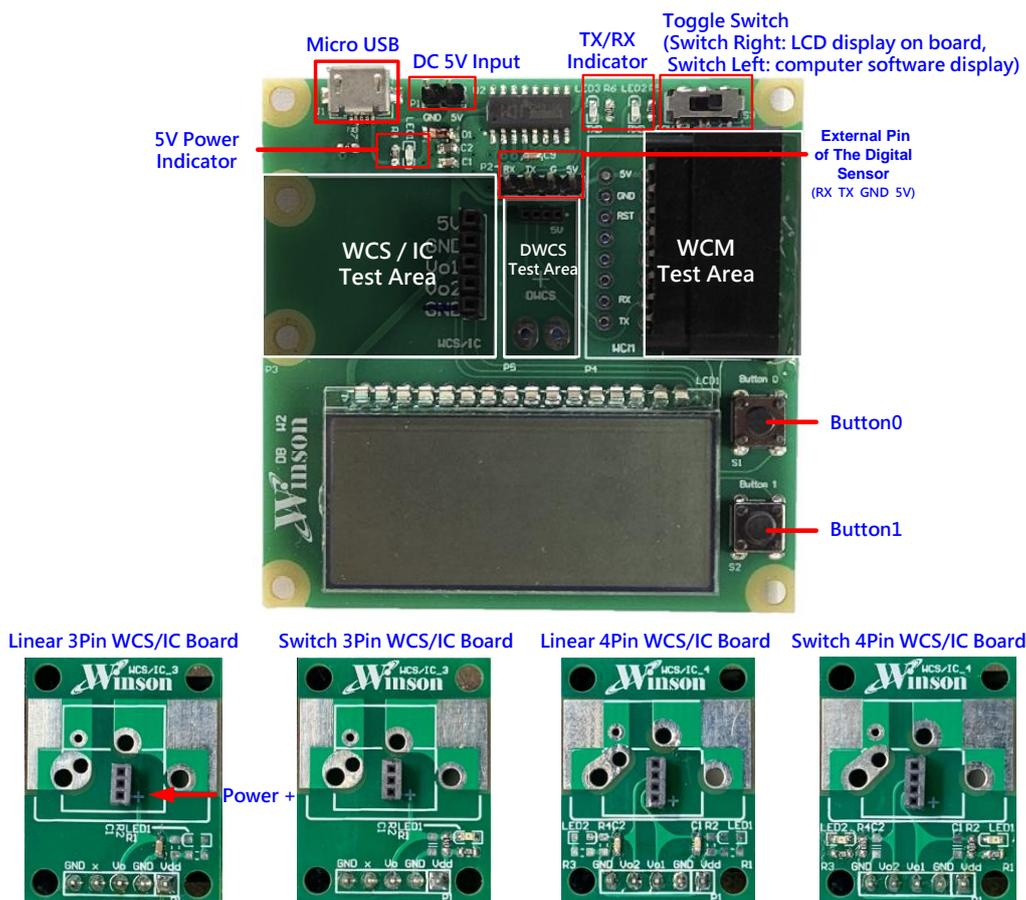

Figure 1 WDB Test Mother Board and Daughter Board
2.2.5 For Modbus-RTU one-to-many measurement, it is necessary to connect to the breadboard or adapter board through the external pin of the digital sensor (as shown in Figure 1) for expansion. The external method is as shown in the figure below.